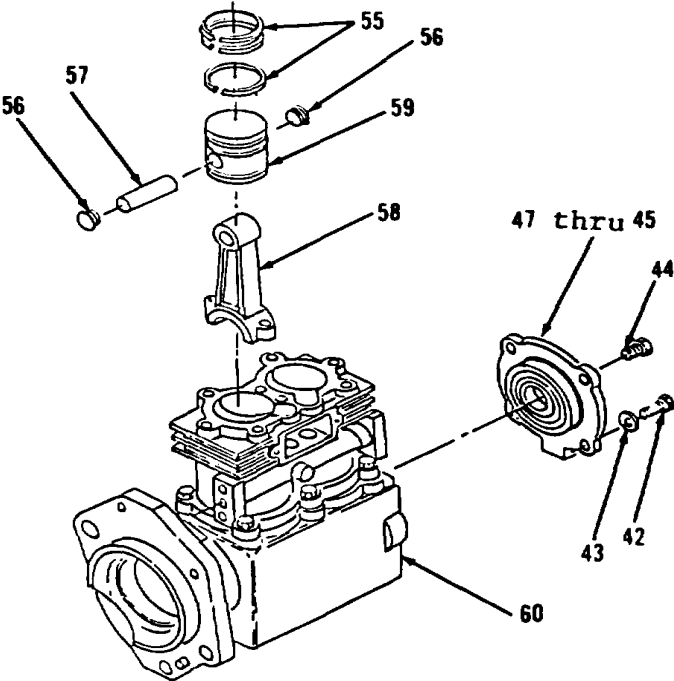

Figure 6-54.
- 7. Position items 47 thru 45 as an assembly on end of crankcase (60, Figure 6-54).
- 8. Install four lockwashers (43) and bolts (42).
- 9. Install plug (44) and tighten to 16 ft-lb torque.